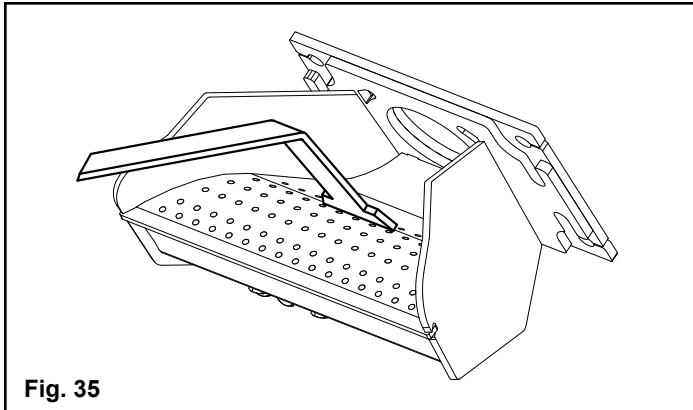

Fig. 35
1. Scrape the top holed surface and sides of the burn pot. Fig. 35. It is not necessary to completely remove all material from the burn pot. The excess will be pushed out during the next use.